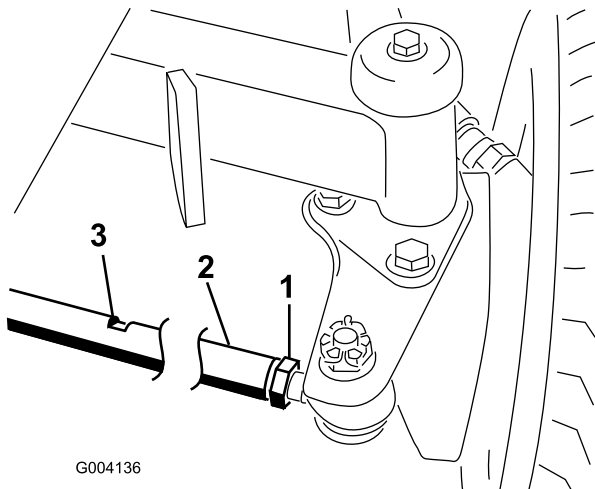

Figure 62
2. Loosen the jam nut on each end of the tie rod (Figure 62).